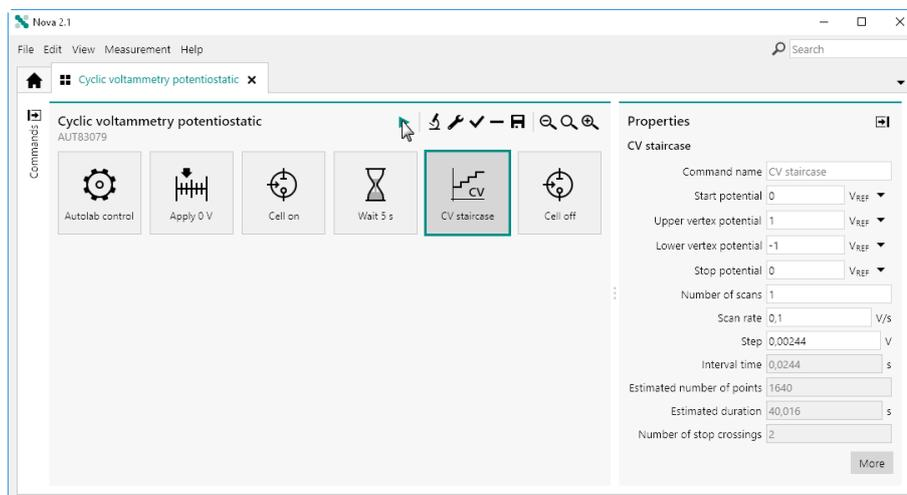

Figure 827 Starting a procedure using the provided button
- Click the run button  in the top left corner of the procedure editor (see Figure 827, page 677).